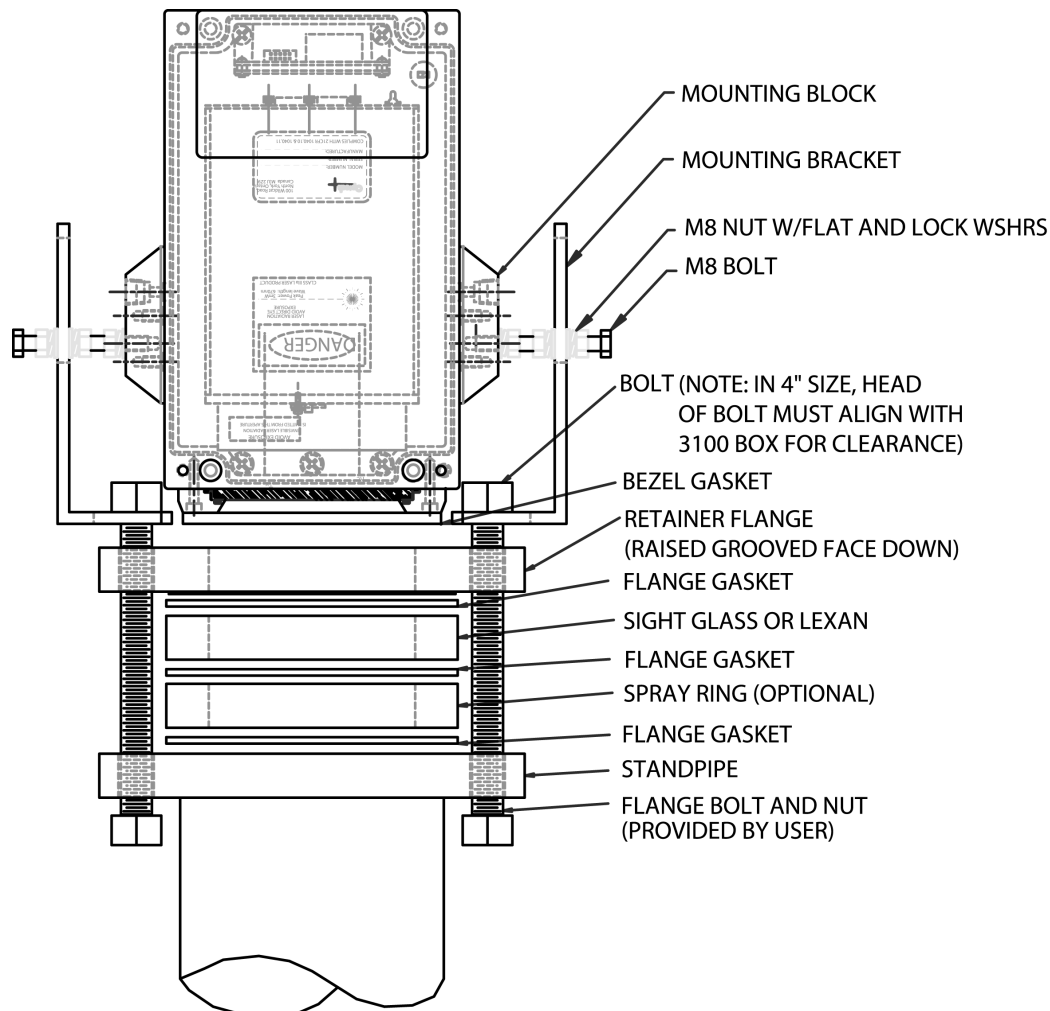

Figure 17: Sightglass and Gasket Installation (Front View)
- ◆ Figure 17 above covers 4" and 6" non-pressurized, class 150#, 300# and 600# flanges.